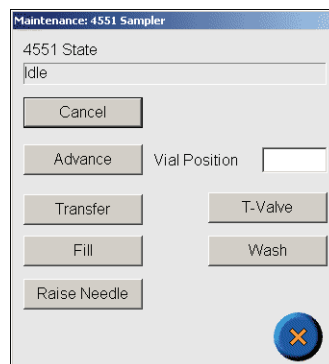

Figure 4.11. Maintenance: 4551 Sampler Dialog Box
2. Press **4551 Sampler** to access the Maintenance: 4551 Sampler dialog box, depicted in Figure 4.11.